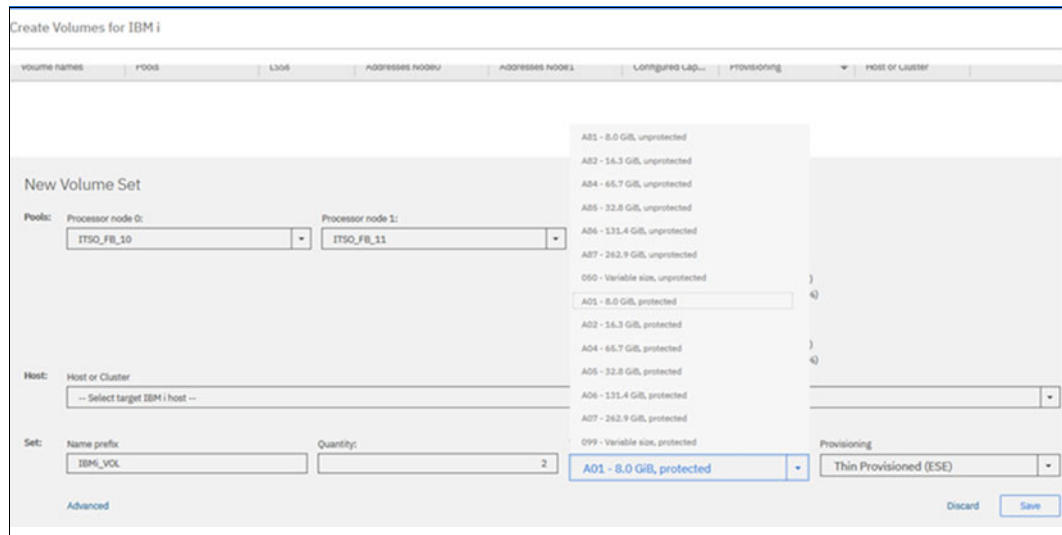

Figure 9-51 Creating IBM i volumes
1. Click the **Create Volumes for IBM i** option. The window that is shown in Figure 9-51 on page 263 opens.